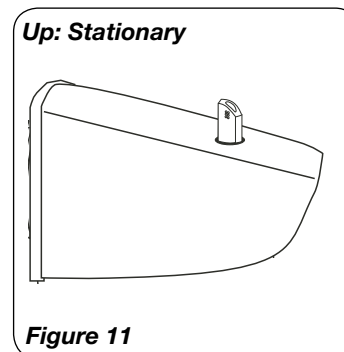

Figure 11
4. **OSCILLATION:** Push down oscillation knob on motor housing to make fan head move from side to side. (*Figures 11 and 12*)